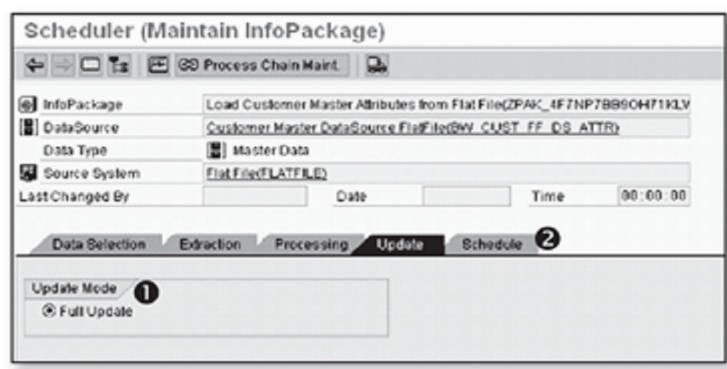

Figure 7.35 Creating an InfoPackage: Update Tab
Click on the Update tab. This tab only has one setting, Update Mode (❶ of Figure 7.35). The setting is determined by the delta capability of the DataSource associated with the InfoPackage. When the only update mode displayed is Full Update, you know that the associated DataSource isn't delta capable, and will provide full data every time you extract. Now click on the schedule tab (refer ❷ of figure 7.35).